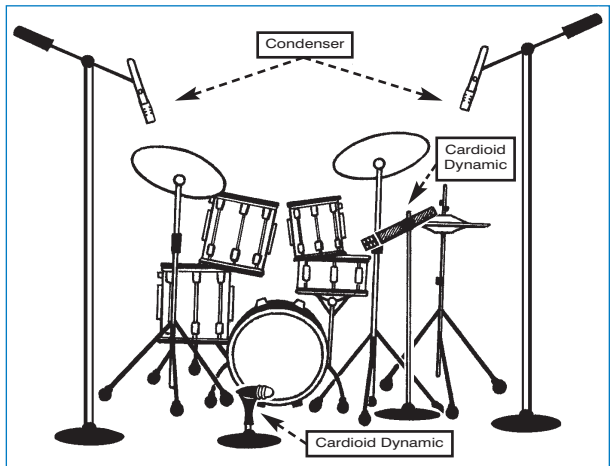

Figure 5
**Drums** (see figure 5) – While seemingly complex, you can achieve a relatively decent drum sound with only four microphones: